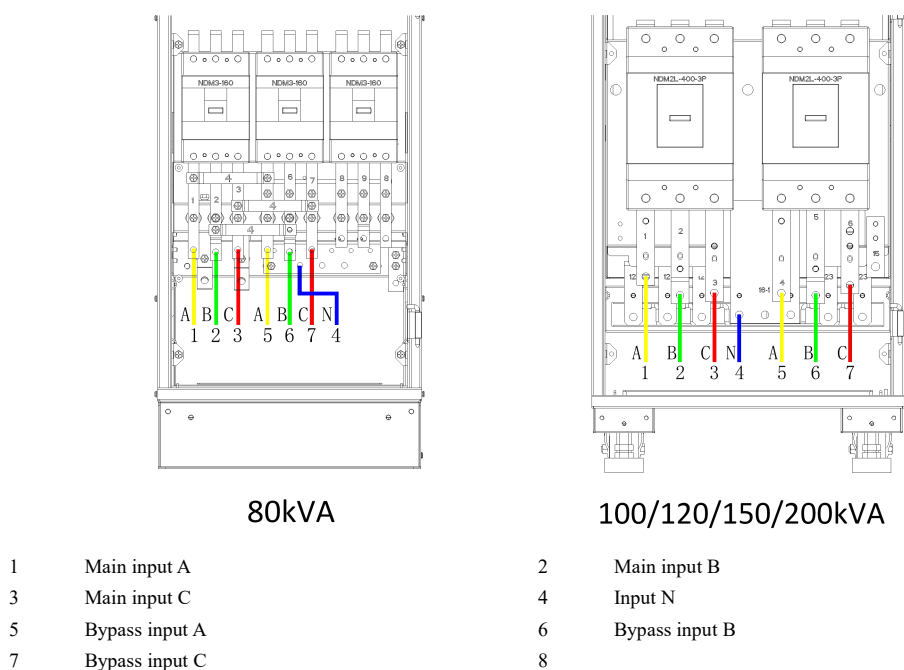

Fig. 3-11 Connection of AC input cable
- connect the bypass input cables to the bypass distribution terminals A, B, C and N successively, as shown in Fig. 3-11.